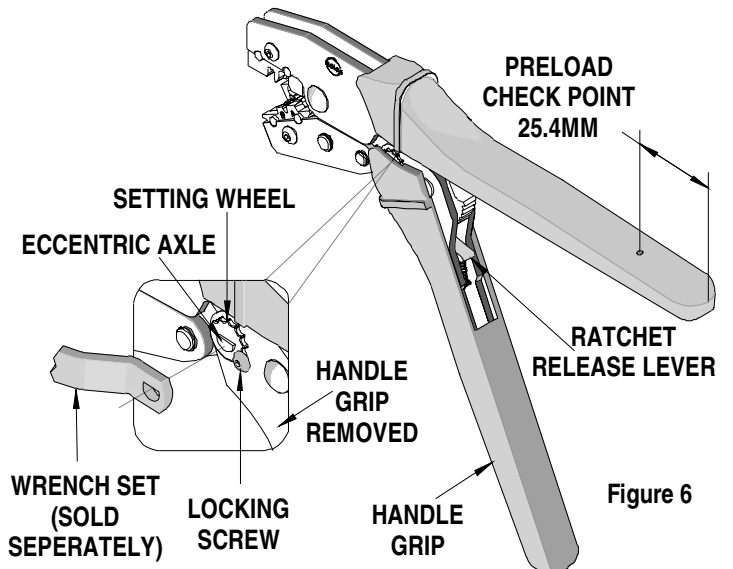

Figure 6
3. Make certain all pins; pivot points and bearing surfaces are protected with a thin coat of high quality machine oil. Do not oil excessively. The 63811-3200 was engineered for durability but like any fine piece of equipment it needs cleaning and lubrication for a maximum service life of trouble free crimping. Light oil such as 30 weights automotive oil used at the oil points shown in Figure 6, every 5,000 crimps or 3 months, will significantly enhance the tool life.
Should this tool ever become stuck or jammed in a partially closed position, **Do Not force the handles open or closed.** The tool will open easily by pressing the ratchet release lever (See Figure 6).
## How to Adjust Tool Preload (See Figure 6)